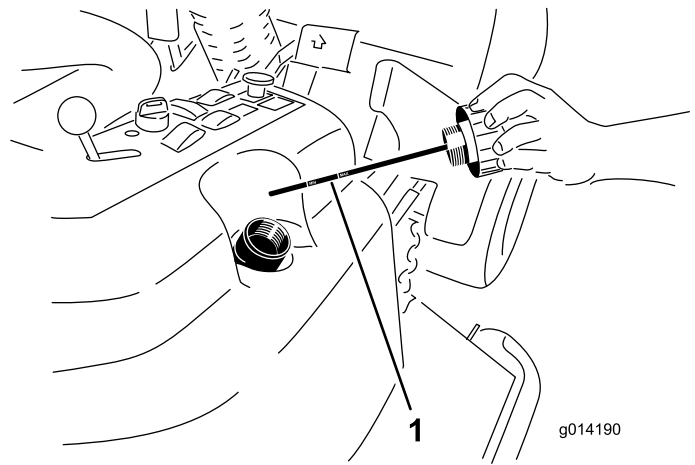

Figure 46
2. Remove the hydraulic fill cap (Figure 46) from filler neck.
3. Remove the dipstick and wipe it with a clean rag (Figure 46).
4. Screw the dipstick all the way into the filler neck; then remove it and check level of fluid (Figure 46).